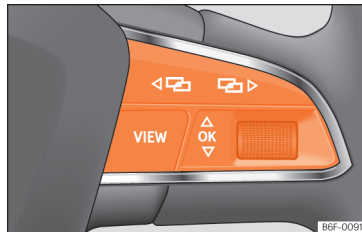

Fig. 133 Right side of multifunction steering wheel: buttons to the menus and informative indications on the instrument panel.
hidden with the button **OK** of the multifunction steering wheel » **Fig. 133**.
- If a message or vehicle symbol is displayed, press the button **OK** » **Fig. 133**; if necessary, several times.
- To change menus, use buttons **◀** or **▶** » **Fig. 133**.
- To open the menu or the information displayed, press the button **OK** » **Fig. 133** or wait a few seconds until the menu or the informative display opens automatically.
- In the menu displayed, turn the right thumbwheel of the multifunction steering wheel » **Fig. 133** until the desired option of the menu is highlighted. The option appears framed.
- Press the button **OK** » **Fig. 133** to make the required modifications. A mark indicates that the system or function is activated.
Press the button **◀** or **▶** » **Fig. 133**.